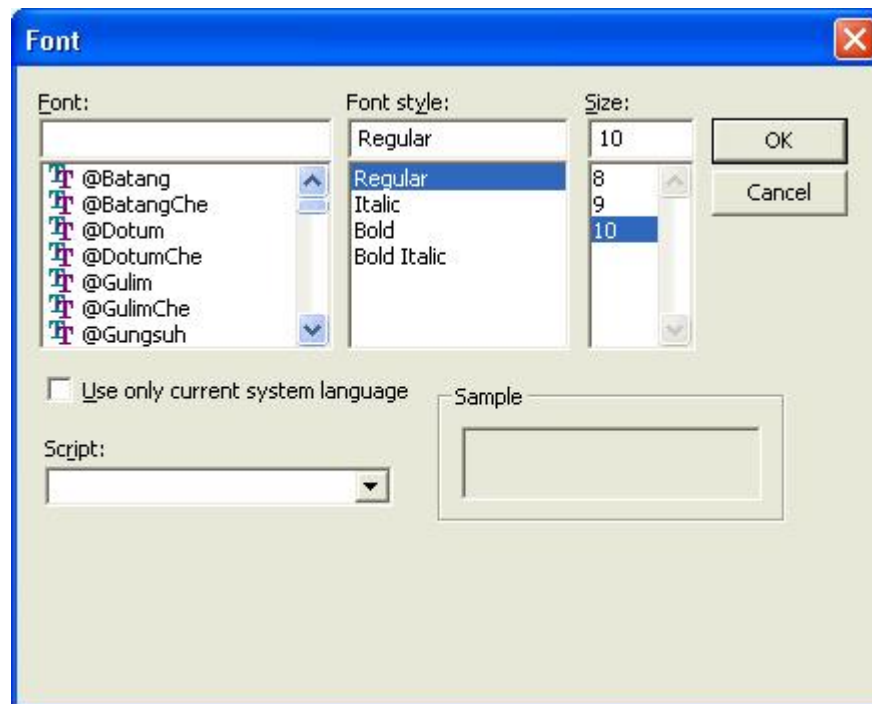

Figure 57. Example Select Font window including non-IBM TrueType fonts
6. If you have received authorization, click **Yes**. The Select Font window is updated to list all of the TrueType fonts installed on your computer (see Figure 57).